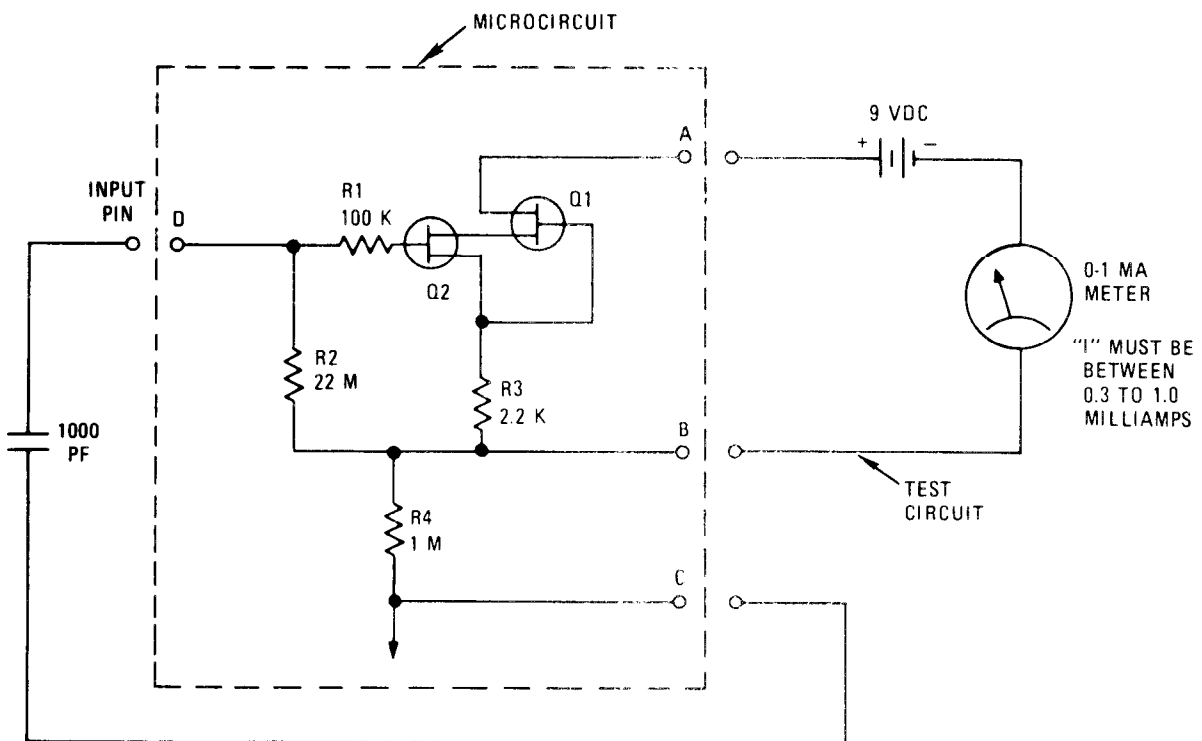

Figure 4-14. Accelerometer 4177B, Schematic Diagram
a. Accelerometer. These tests will determine the operational capability of the Accelerometer and Accelerometer Cables. Refer to Figures 4-14 & 4-15 for schematic diagrams of the Accelerometer and Accelerometer Cables and perform resistance checks in accordance with Table 4-10 & 4-11, respectively.